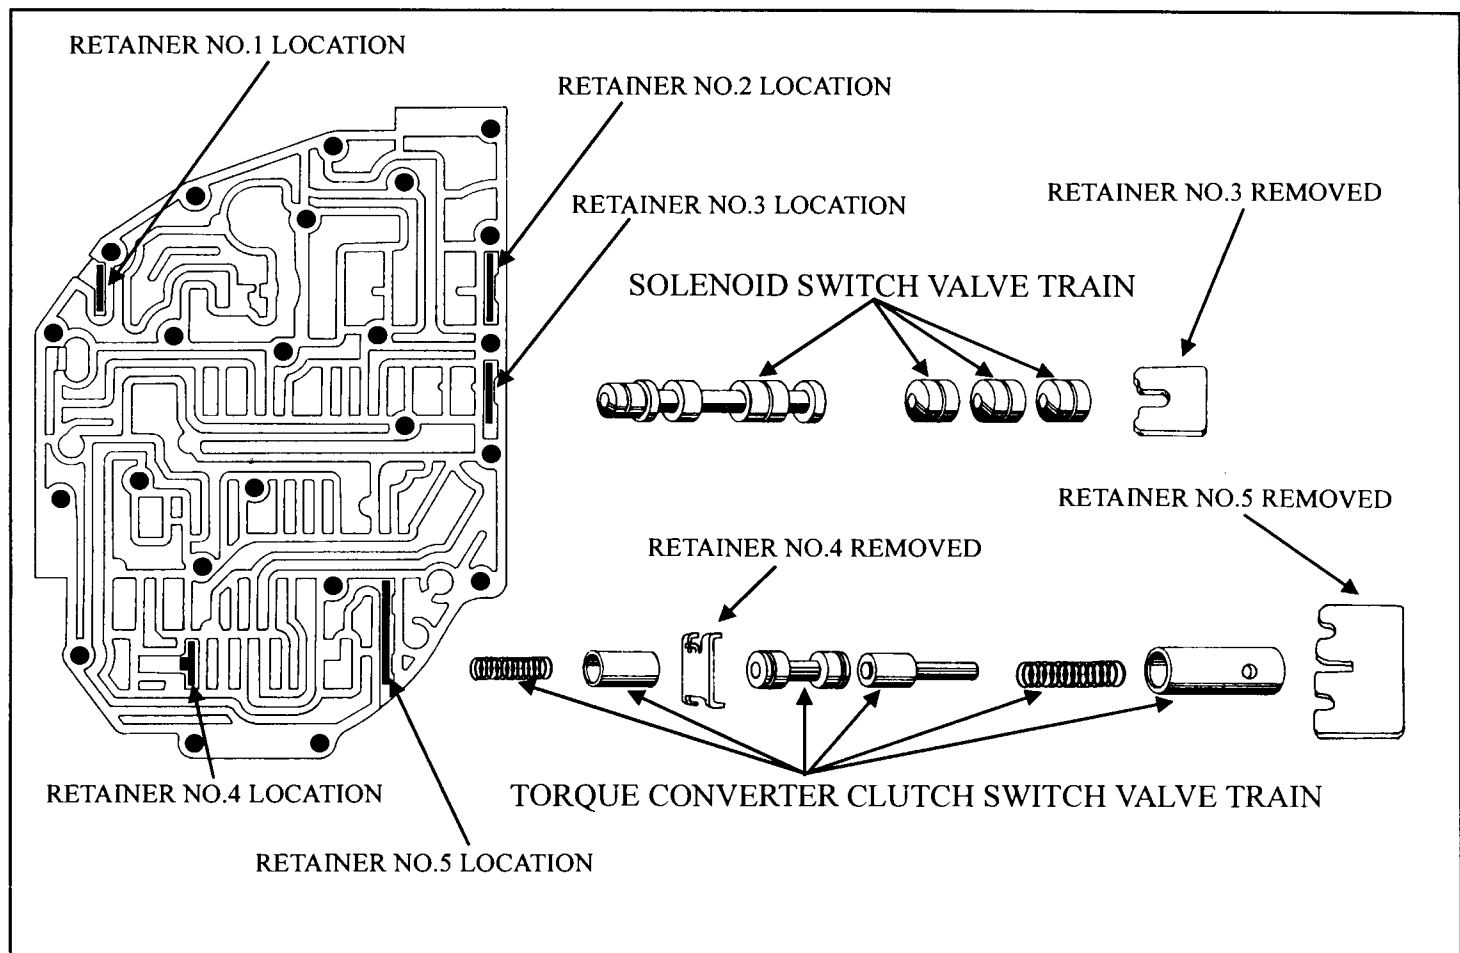

Figure 39
**CORRECTION:** Install the solenoid switch valve train and retainer No.3 as shown in Figure 39.
**NOTE:** Retainer location No.4 and Torque Converter Clutch Switch Valve Train shown in Figure 39 are for "92" and later only!